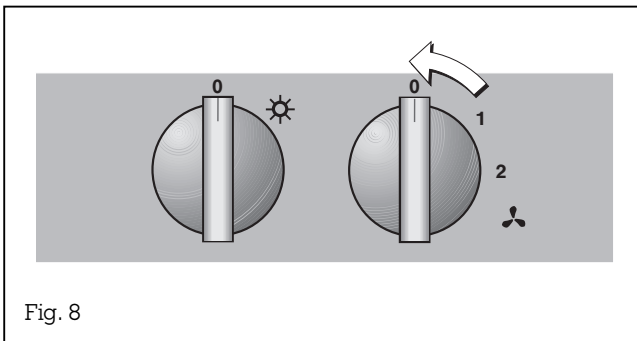

Fig. 8
- Turn the "Ventilation level" control knob to the 0 position (Fig. 8).